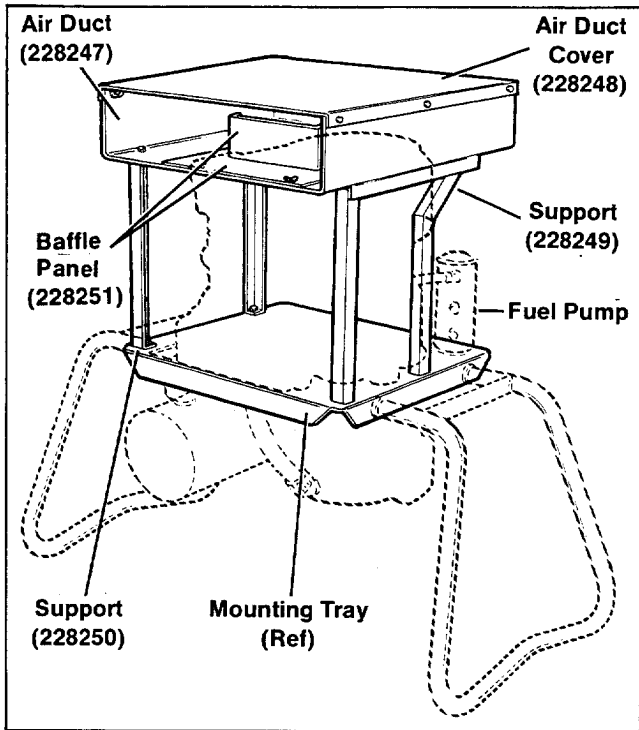

Figure 2. Bracket Position
2. Attach support brackets (228249 and 228250) to mounting tray using four screws (X-5-1), lock washers (X-20-1) and nuts (X-81-1). The offset bracket (with 45° bend) should be mounted adjacent to fuel pump, as shown in Figure 2.